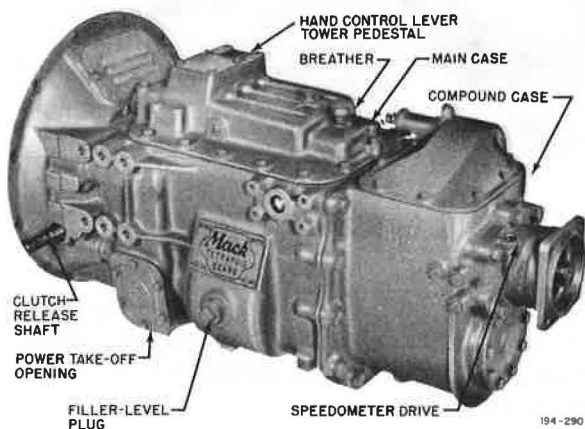

Figure 5-7. TRD722/7220 Ten-speed Transmission
For the ten-speed, (TRD(L) and TRDX) two lever duplex transmissions, the basic five-speed primary gearset and case is altered so that a two-speed compound gearset is integrated with the main gearset and the compound case is bolted to the main case to provide a single compact unit. See Figure 5-7.